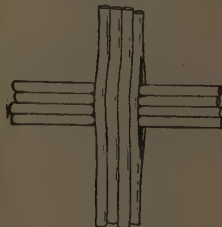

FIG. 4
3. Cut a slit in the middle of each of the other three spokes and slip them on the four spokes shown in Fig. 4.
3. Cut a slit in the middle of each of the remaining 24-inch spokes, and slip them on the group of four spokes, with the first one. You have four spokes slipped through four spokes. Be sure to make them cross exactly in the middle (Fig. 4).
2. Slip the odd spoke in the lower left corner, and start the No. 1 weaver in the upper right corner (Fig. 4).